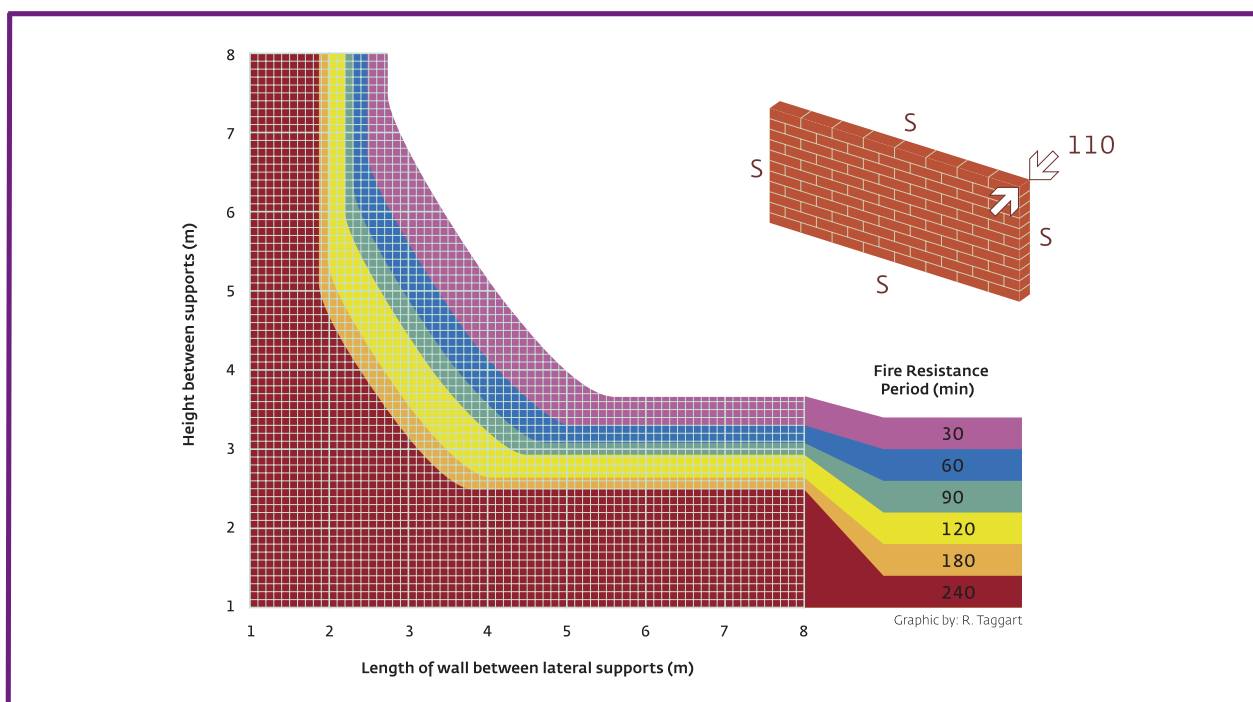

Figure 1: Chart 2 from TBA Manual 5 'Design for Fire Resistance'
1. find the relevant chart in Manual 5 (e.g. Chart 2, shown in Figure 1, below);